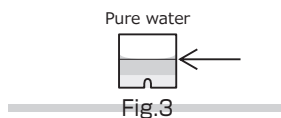

Fig.3
5. Suck the whole amount of the sample in the Cell into the tube and press **[Start]** at the same time. (Fig.3)
3. Fill the Cell with pure water (or tap water) for 1.5 mL (up to line). (Fig.3)